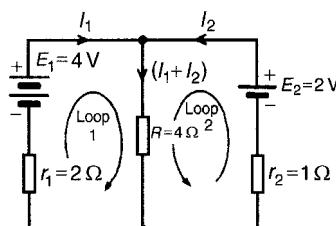

Figure 13.5
- 1 Use Kirchhoff's current law and label current directions on the original circuit diagram. The directions chosen are arbitrary, but it is usual, as a starting point, to assume that current flows from the positive terminals of the batteries. This is shown in Fig. 13.5 where the three branch currents are expressed in terms of I_1 and I_2 only, since the current through R is $(I_1 + I_2)$
- 2 Divide the circuit into two loops and apply Kirchhoff's voltage law to each. From loop 1 of Fig. 13.5, and moving in a clockwise direction as
From loop 2 of Fig. 13.5, and moving in an anticlockwise direction as indicated (once again, the choice of direction does not matter; it does not have to be in the same direction as that chosen for the first loop), gives:
(i.e. I_2 is flowing in the opposite direction to that shown in Fig. 13.5)